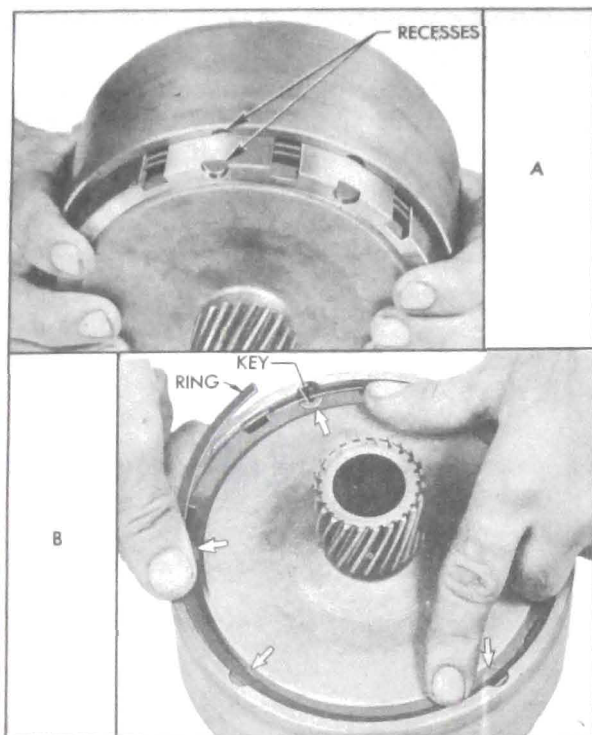

Figure 5-78—Installing Drum Over the Reaction Flange Gear
6. Place the drum and clutch piston assembly over the reaction gear flange so that the driving key recesses in drum and flange are approximately aligned. See figure 5-78, view A. Press the drum evenly into place over the reaction gear flange.
then install the 6 driving keys and the reaction gear flange retainer ring. See figure 5-78, view B.